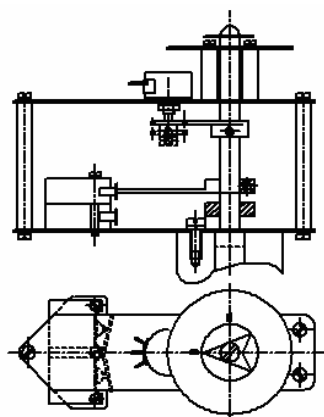

Fig.1 Limit control and openness mechanism
1.3.3 Limit control and position indicator: this mechanism is led by output shaft (90° turns), limit cam, pointer (90° rotation in one travel). Potentiometer is used to control remote electrical signal, applying step-up gearing to transfer. (Refer to Fig.1)
F. Electrically operate the valve for one stroke to make sure the controlling is in good condition. Check again if the screws on the cams are fastened firmly. Till now, adjustment for open stroke and closing stroke are finished. (See Fig.1)
A. When the valve is at a limit position, unscrew the pointer’s screws to have it pointed at the corresponding scale and then fasten the screw. See Fig.1